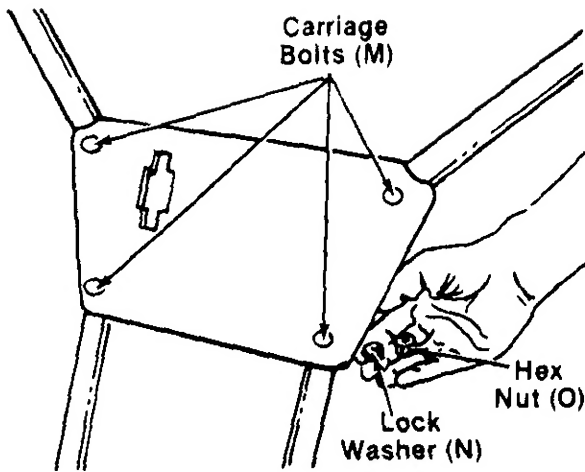

FIGURE 7.
3. Mount the handle panel (X) to the handles. Secure with carriage bolts (M), lock washers (N) and hex nuts (O). See figure 7.